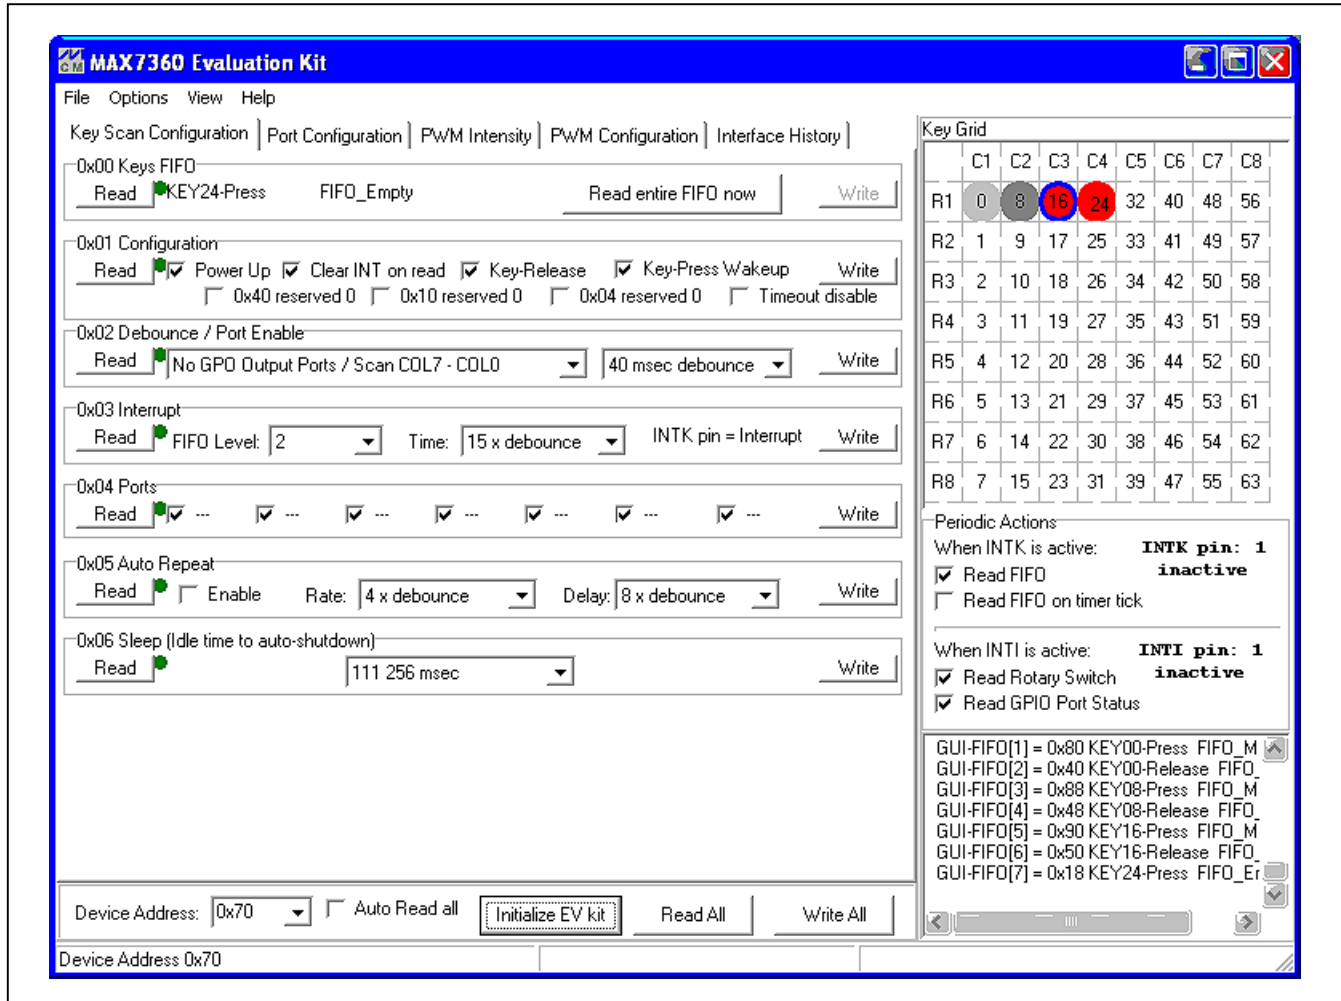

Figure 1. MAX7360 EV Kit Software Main Window (Keyscan ConfigurationTab)
- 7) Start the MAX7360 EV kit software by opening its icon in the **Start | Programs** menu. The EV kit software main window appears, as shown in Figure 1.
The main window of the evaluation software (Figure 1) provides direct access to all registers and controls the interrupt response. The software automatically searches for the MAX7360 EV kit hardware when launched. Once the hardware is found and connected, the I²C **Device Address** is shown in the lower-left corner.
Each of the MAX7360 registers is represented on the software's main window (Figures 1–4). Each register has its own **Read** and **Write** buttons. Pressing the **Read entire FIFO now** button reads register 0x00 repeatedly until the FIFO indicates that all keypress events have been read.
To configure the **INTK** pin for use as a GPO pin, set both the **FIFO Level** and **Time** combo box of register **0x03 Interrupt** to **Not Used**, then press the **Write** button. When configured for GPO, the **INTK** pin is controlled from the **0x04 Ports** register (Figure 1).